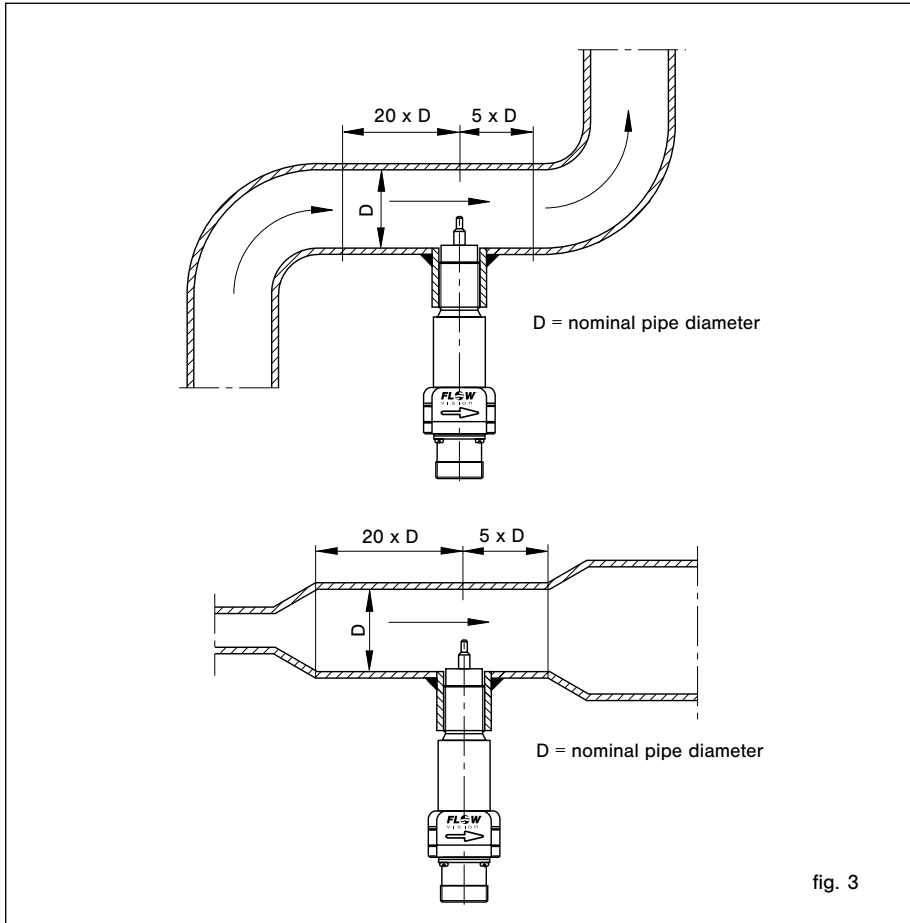

fig. 3
- The two sensors (M) should be screwed into the pipeline far enough to ensure that they are aligned side by side directly across the direction of flow. The sensors are correctly positioned when the wrench flats (S) are aligned parallel with the pipeline.
- The monitoring head should be installed only in a straight section of piping. There should be a distance of at least 20 pipe diameters before the monitoring head, and 5 pipe diameters after the monitoring head before or after bends and changes in pipe diameter, to avoid any effects of turbulence (fig. 3).
If gases are to be monitored, the mounting attitude of the monitoring head is unimportant in either vertical or horizontal pipelines. There should be a distance of at least 20 pipe diameters before the monitoring head, and 5 pipe diameters after the monitoring head before or after bends and changes in pipe diameter, to avoid any effects of turbulence (fig. 3).